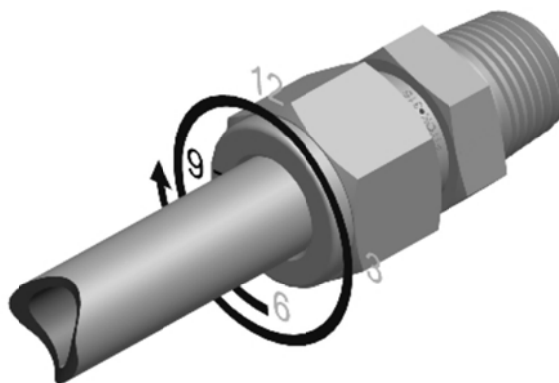

Figure 5
4.1.3 Firmly fix the fitting body and turn the nut 1 1/4 turn with a wrench to the 9 o' clock position, as shown in Figure 5.